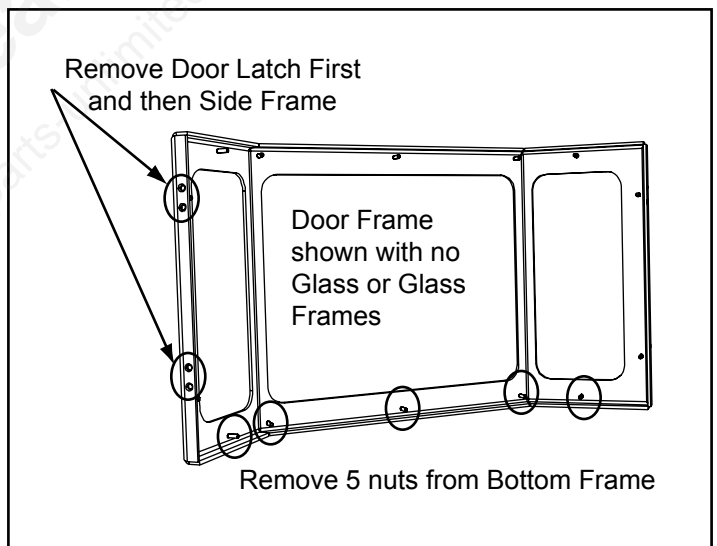

Figure 35.2
- Using a nut driver remove the (5) bottom nuts and remove the bottom glass frame. **Figure 35.2.**